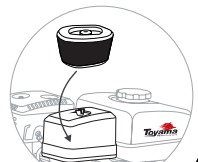

IMAGEN 2
- VERIFIQUE LA LIMPIEZA DEL FILTRO DE AIRE;(IMAGEN 2)